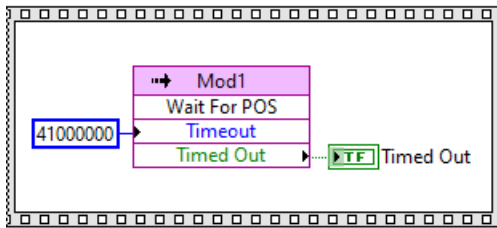

Fig. 7: Quick Start – Wire method node
- 15. Create a *Timeout* input value of 41000000 and create a *Timed Out* indicator (Fig. 7).